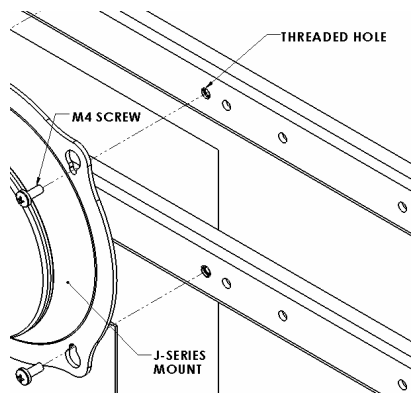
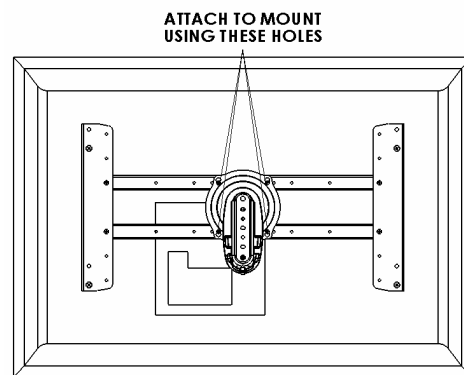

Figure 12
Figure 13
7. **Installation onto J-series:** Attach to J-series mount using M4 screws (supplied with J-series) in threaded holes (see Figure 12 & Figure 13)